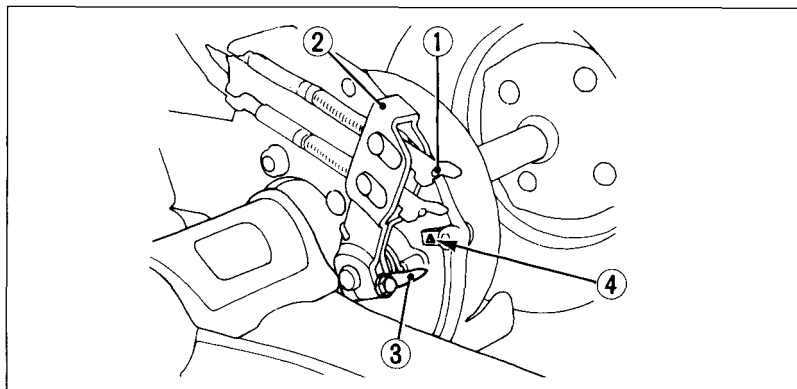

Fig. 4-30
Minor adjustments can be made with the adjuster (2) on the brake lever. Loosen the lock nut (3) and turn the adjuster. Major adjustments should be made using the brake lever adjusting nut on the brake arm (Fig. 4-30).
When the brake is applied, an arrow (3) attached to the brake arm (2) moves toward a reference mark (4) on the brake panel (see Fig. 4-30).